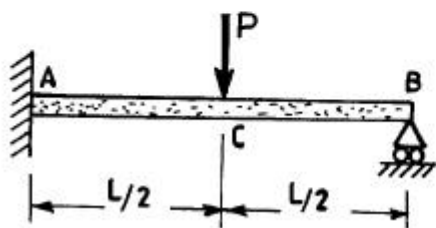

fig. 3
7. Using the strain energy method determine the prop reaction in a uniform propped cantilever beam shown in Fig. 3.